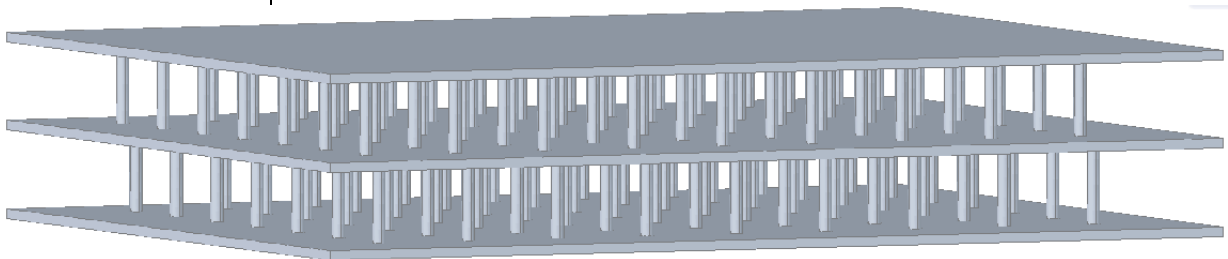

Figure 5–23
6. Copy the slab twice to create new floors above the original, one **9'-0"** up and one **1'-0"** up, as shown in Figure 5–23.